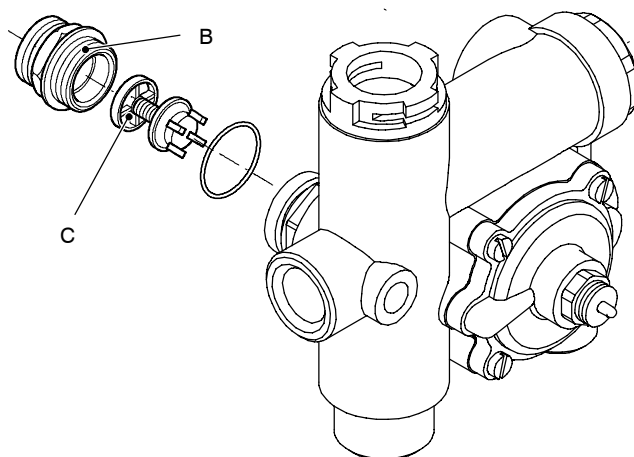

Fig. 16.2
- 4 Unscrew the connector *B* and remove the by-pass valve *C* (Fig. 16.2).
- 5 Reassemble the by-pass valve as illustrated in Fig. 16.2 reversing the order of removal.